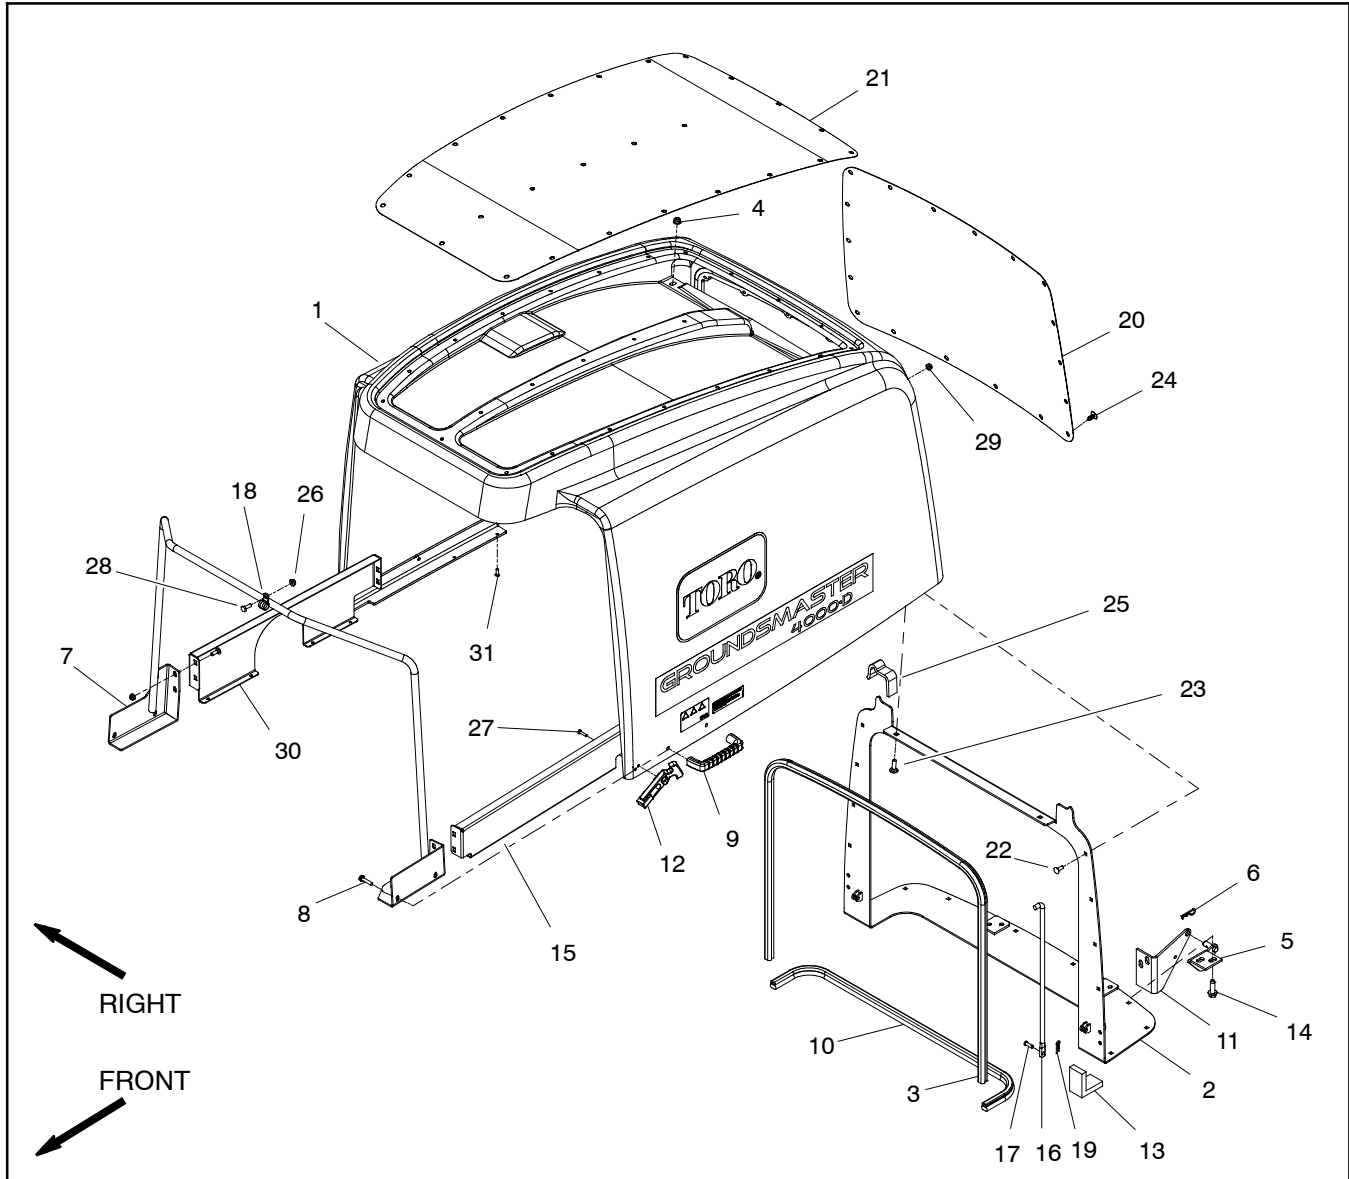
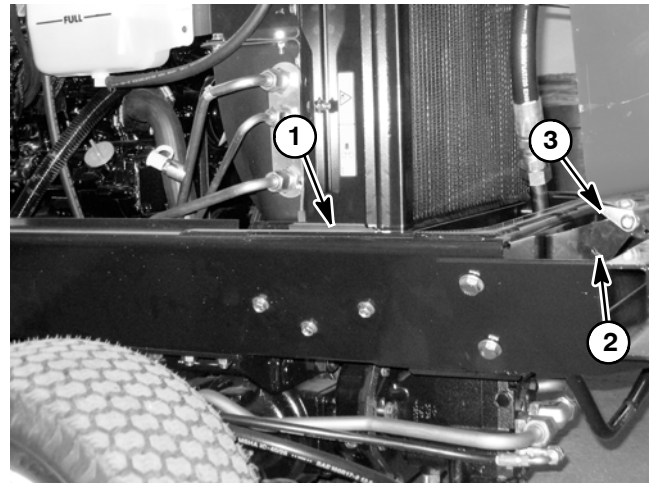

Figure 32
Figure 33
- A. Remove hair pins (item 6) that retain screen pivots to hood pivots.
3. Disassemble hood as needed using Figure 32 as a guide.
1. Assemble hood using Figure 32 as a guide.
- B. Install hair pins (item 6) to secure screen pivots to hood pivots.
- A. Place shim that is from 3/8" to 7/16" (9.5 to 11.1 mm) thick on top of frame (both RH and LH sides) near the sides of radiator/oil cooler (Figs. 33 and 34).